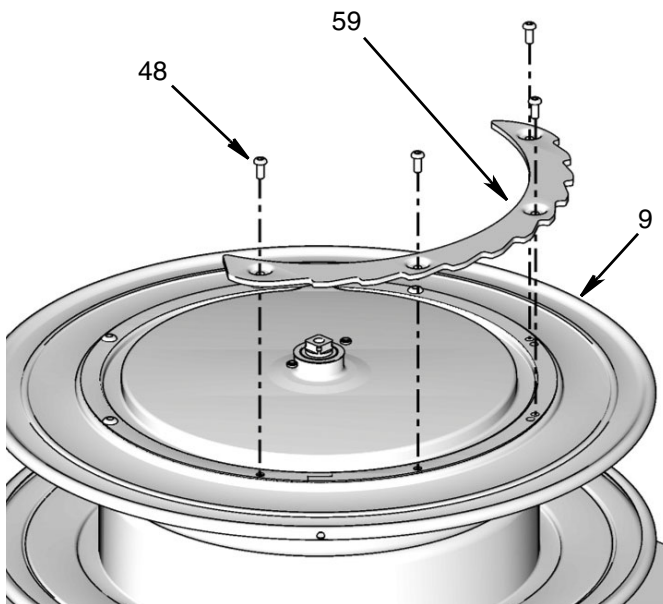

FIG. 9
13. Remove screws (48) and ratchet (59) from spool (FIG. 9). Discard these parts. Use new parts included in the kit for reassembly.